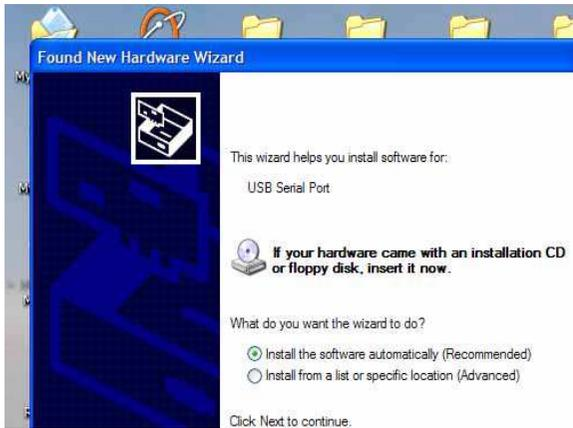

Figure 6
- 2) *What do you want Wizard to do?* (Figure 6) click on *Install from a list or specific location* click Next.